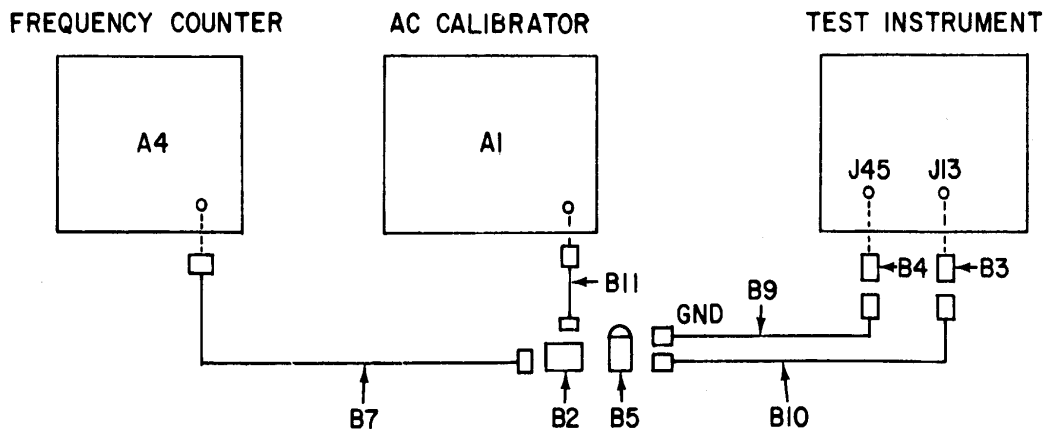

Figure 6. Stopband filter test – equipment setup.
- (1) Program: (Press START TEST) SRSC00044@A.
- (2) Connect equipment as shown in figure 6.